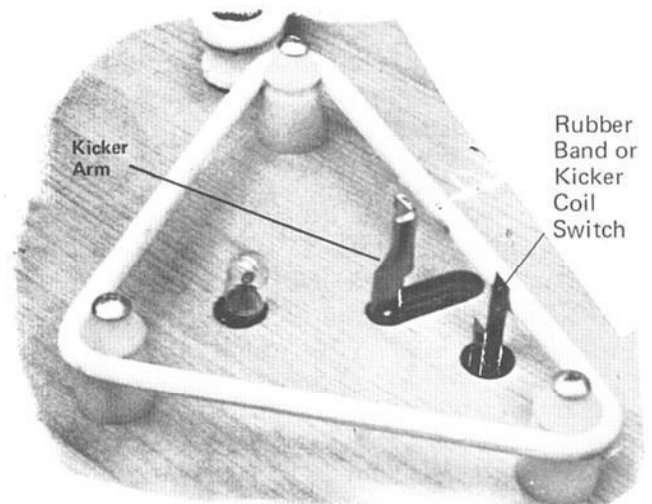

**FIGURE 4**
14. Adjust the flipper coil switch: (Figure 4). Note that the switch contacts are closed. (Touching) (Figure 4) To adjust these contacts properly, push the coil plunger all the way into the coil with your finger. While holding the coil plunger in as far as it will go, gently bend the short switch contact blade so that the contacts are approximately .030 inch apart.